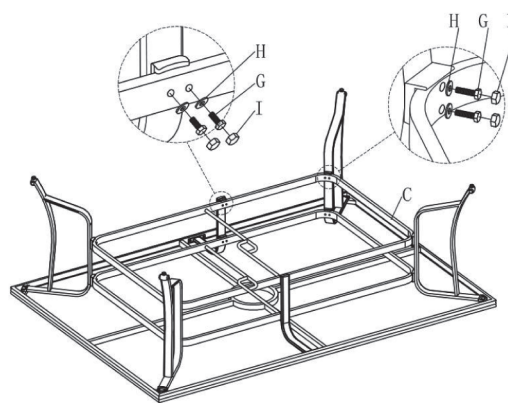

Figure 4
Step 4. Assemble the another base shelf (C) to the table legs (B) and middle leg(D) with bolts (G) and washers (H), then cover the bolts with bolt covers (I) as show in Figure 4.